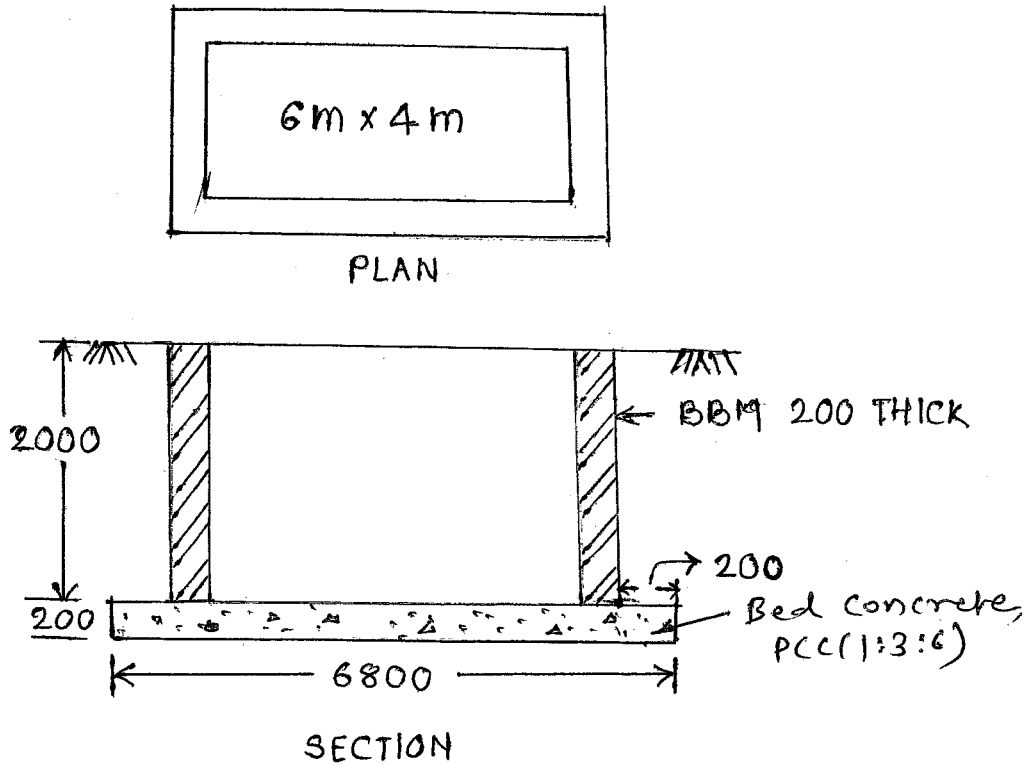

Fig. No. 2 (Q. No. 5 c)
- c) Find quantity of brickwork, bed concrete and excavation for underground water tank. Shown in figure no. 2.